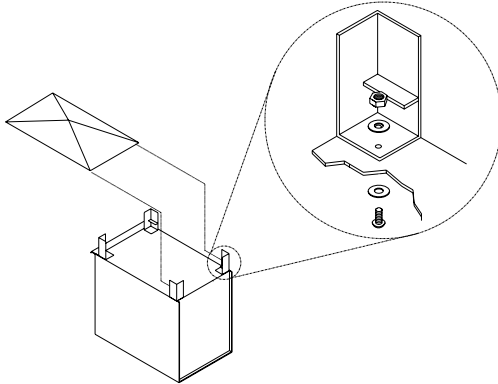

Fig. 1
2. Screw the four (4) legs into place (see fig. 1);
3. Slide the heat shield between the four (4) legs and the bottom of your stove.